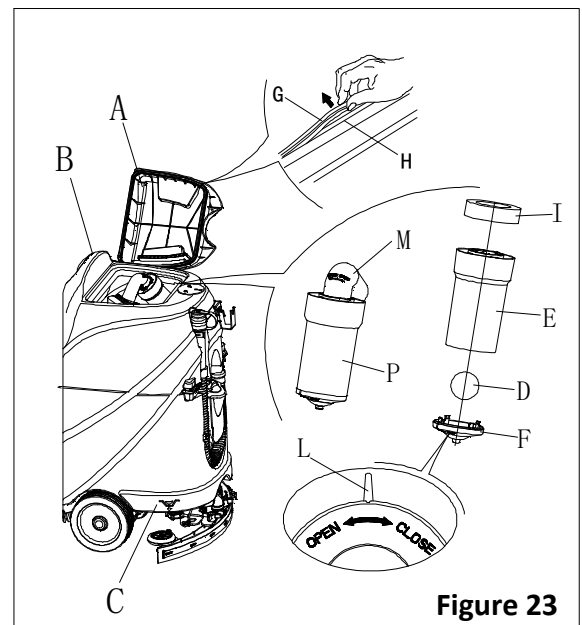

Figure 23
2. Ensure that the machine is off and the ignition key (40) has been removed.
3. Turn the recovery tank lid (A, Figure 23) 90 degree position where it can be removed from the tank, and then take down the float ball filter (P) from the tank.
4. Clean the recovery tank lid (A), recovery tank (B), clean water tank (C) and the float ball filter support frame (E). Empty the recovery tank with the drain hose (15).
5. If necessary, follow the symbols "OPEN" and "CLOSE" as shown in Figure 23 to open the bottom cover (F) of float ball filter and then clean the float ball (D), filter support frame (E) and filter sponge (I). After cleaning, fix the float ball (D) into the filter support frame (E) and then align the mark groove (L) of the bottom cap (F) of the float ball filter with the mark groove (L) of the float filter support frame (E). Screw the bottom cap of the float ball filter tight, and fix the filter sponge (I) onto the float filter support frame (E). Finally, connect it to the sewage suction hose (M).
7. Check whether the contact surface of sealing strip (G) is integrity and sealing is sufficient. If necessary, take the sealing strip of the tank out of the groove (H) and replace it. Assemble the new sealing strip as shown in Figure 23, the joint should be back in the middle area.
8. Close the recovery tank lid (A).